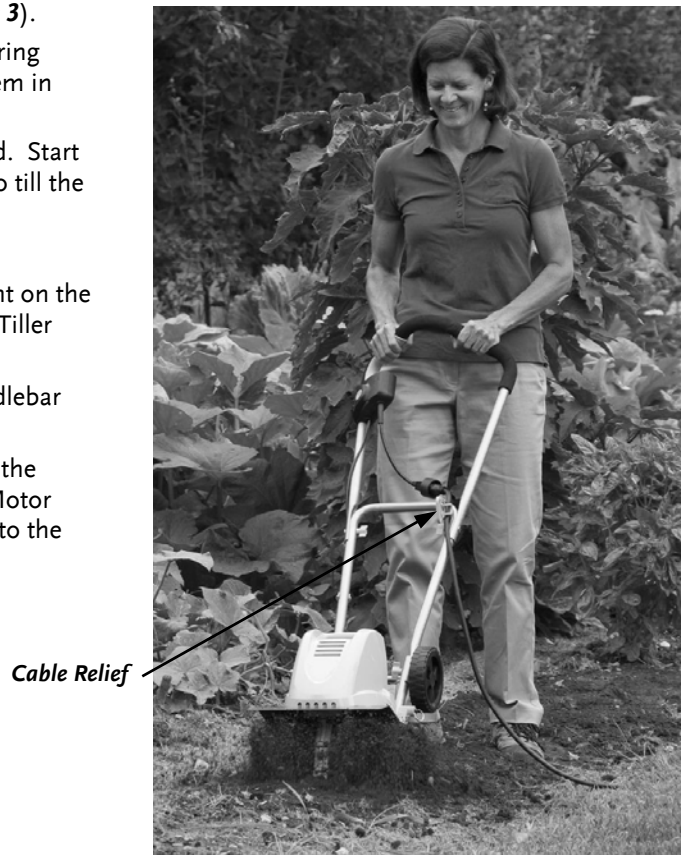

Figure 3
2. Plug in the Tiller and hang the cord on the Cable Relief (**Figure 3**).